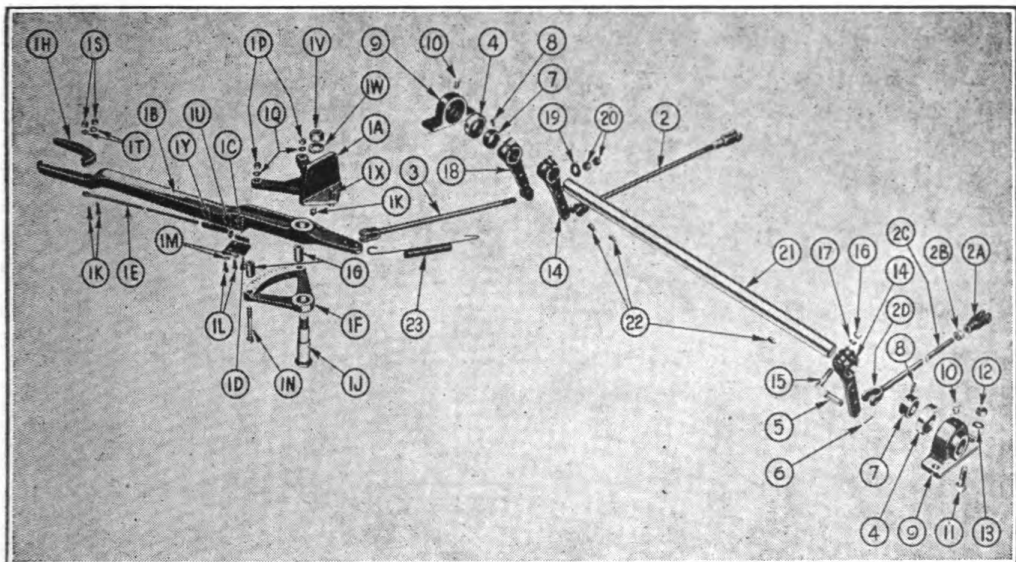

FIGURE 47. HAND PARKING BRAKE—EXPLODED.
20. ADJUSTING HAND PARKING BRAKE (Fig. 47).—**a.** Usually the hand parking brake requires little attention, the minor brake adjustment taking care of parking brake adjustments. However, when an adjustment is required, it consists, essentially, of shortening the brake rod.
21. **DISASSEMBLY OF CROSS SHAFT (Fig. 47).**—*a.* Disconnect the brake rods (2) and (2C) at the levers (14).
b. Remove nuts (20) from brake rod (3).
c. Remove the bolts (11) holding cross shaft journals (9) to frame, and lift the cross shaft assembly (21) out.
d. Loosen the three pinch bolts (15) in two levers (14) and (18).
e. Loosen set screws (8) in collars (7) and tap the two collars (7) and the three levers (14 and 18) off shaft (21).
22. **REASSEMBLY OF CROSS SHAFT (Fig. 47).**—*a.* Reassembly of cross shaft is in reverse of disassembly (paragraph 21, this section).
b. **NOTE:** It is very important that cross shaft works freely. Before coupling brake rods (2C, 2 and 3) test the operation of the cross shaft by moving the levers and cross shaft assembly forward and backward. If cross shaft binds, and a drag is felt, tap the journals (9) forward or backward until the cross shaft works freely.
d. Lubricate the cross shaft journals (9).
23. **REMOVAL OF LEVER ASSEMBLY (Fig. 47).**—*a.* Disconnect brake rod (3) from lever (1B).
b. Remove the three bolts (1X), uncouple spring (23) and lift the assembly off frame.